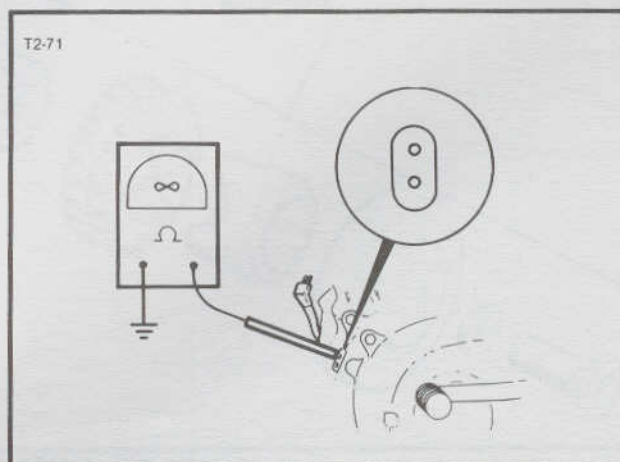

Figure 8-16. Test for Grounded Stator
2. See Figure 8-16. Connect an ohmmeter on the RX1 scale between crankcase and either stator pin or socket. There should be no continuity (∞ ohms) across either test point. Any other reading indicates a grounded stator which must be replaced.